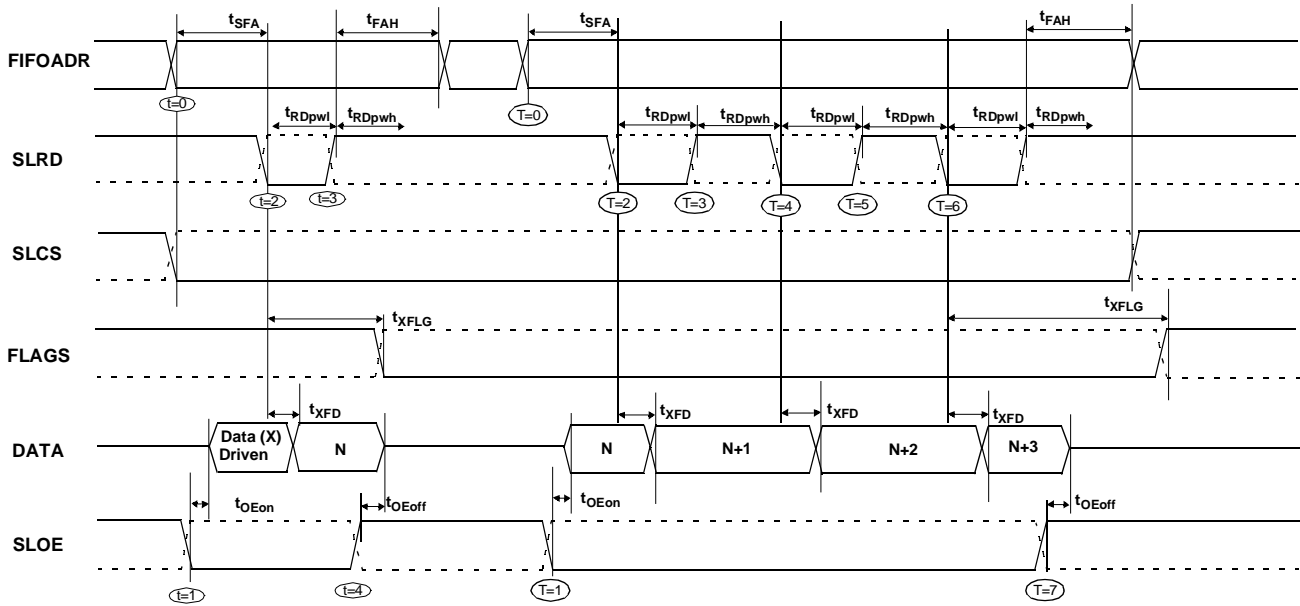

Figure 11-19. Slave FIFO Asynchronous Read Sequence and Timing Diagram
Figure 11-19 diagrams the timing relationship of the SLAVE FIFO signals during an asynchronous FIFO read. It shows a single read followed by a burst read.
- The data that will be driven, after asserting SLRD, is the updated data from the FIFO. This data is valid after a propagation delay of  $t_{XFD}$  from the activating edge of SLRD. In Figure 11-19, data N is the first valid data read from the FIFO. For data to appear on the data bus during the read cycle (i.e. SLRD is asserted), SLOE MUST be in an asserted state. SLRD and SLOE can also be tied together.